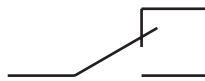

Fig. 3
- 3 (a) Name the switch arrangement shown in Fig. 3.
- (b) Add labels to Fig. 3 to indicate the normally closed (NC) and normally open (NO) terminals. [2]